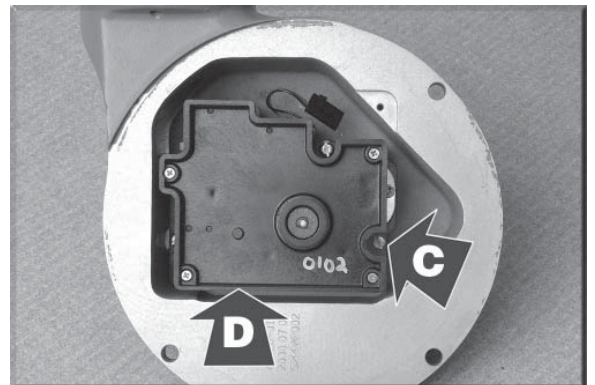

Fig. 2 Remove Register from Cover
- Remove three M3 pan head screws (Fig. 2 "C"), p/n 52620P003, holding the index to the register cover using Quick-Wedge® No. 1734 04241 screw starter (Or Similar).
- Remove register (Fig. 2 "D") from register cover.